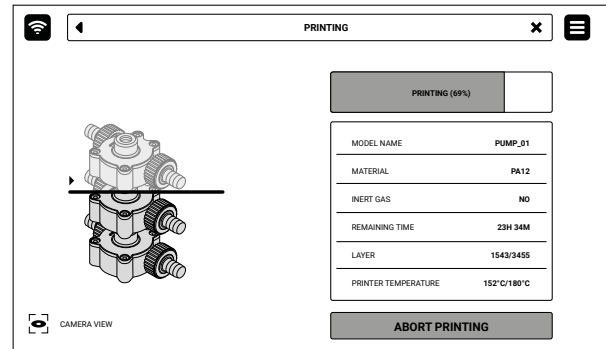

Fig. 7.1 The **PRINTING** screen.
1. While the printing is in progress, the display will show basic information about the printing process (fig. 7.1).